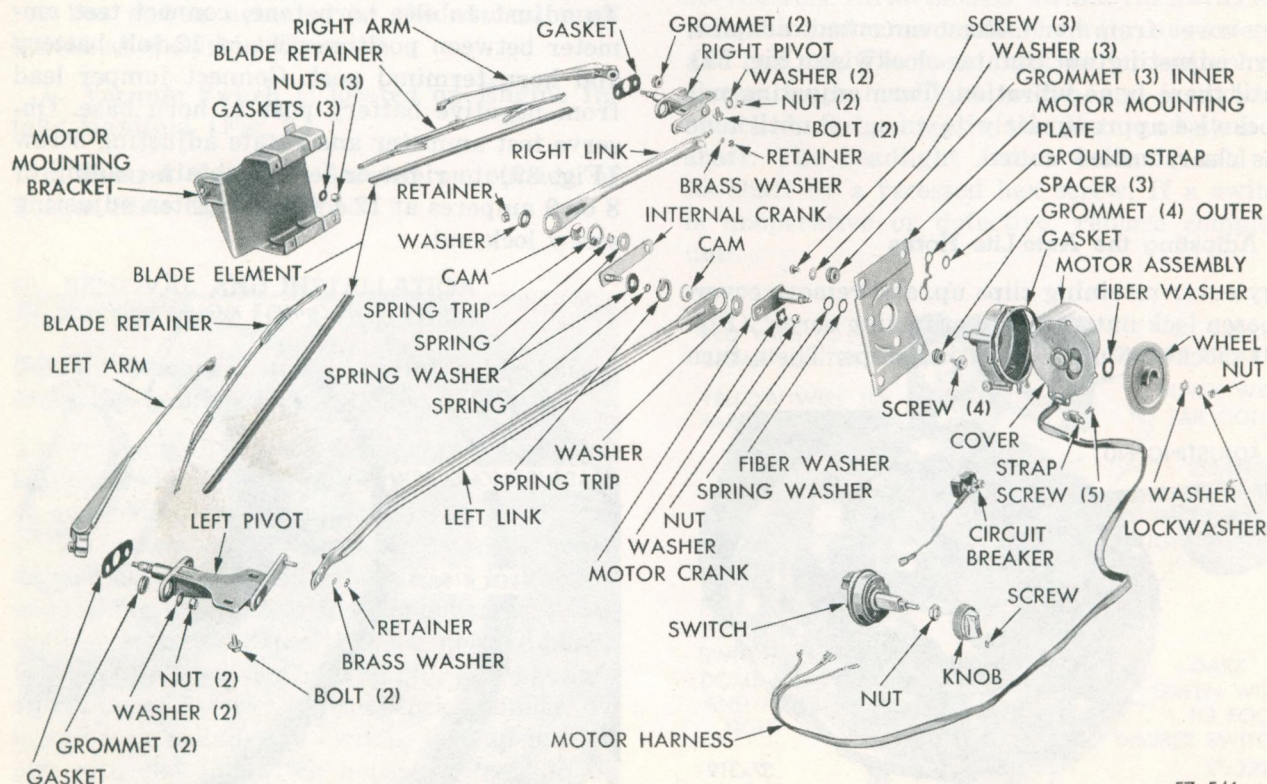

Fig. 40—Windshield Wipers (Disassembled)
(Refer to Figure 40). The variable speed motor is a compound wound, reversible type unit which makes possible off-glass parking feature. The wiper also contains a Geneva Wheel in gear box for actuating off-glass parking switch, and an eccentric in connecting link at wiper crank pivot which automatically lengthens links making off-glass parking position possible.
66. REMOVAL, DISASSEMBLY AND ASSEMBLY OF VARIABLE SPEED WINDSHIELD WIPERS (Fig. 40).
b. Disassembly of Windshield Wiper Link (Fig. 40)